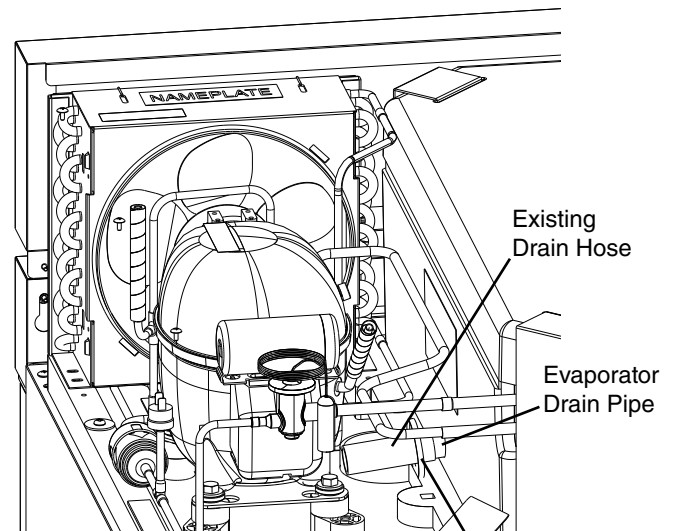

Fig. 2
- 4) Remove the nylon tie connecting the existing drain hose to the evaporator drain pipe. Remove the existing drain hose and discard. See Fig. 2.